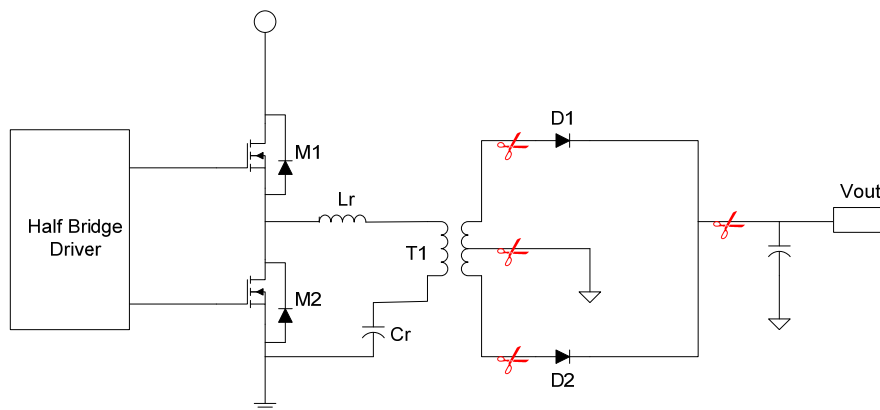

Figure 3: How to disconnect the diode rectifiers
1. Remove the diodes rectifiers from the board as the Fig.3 shows.